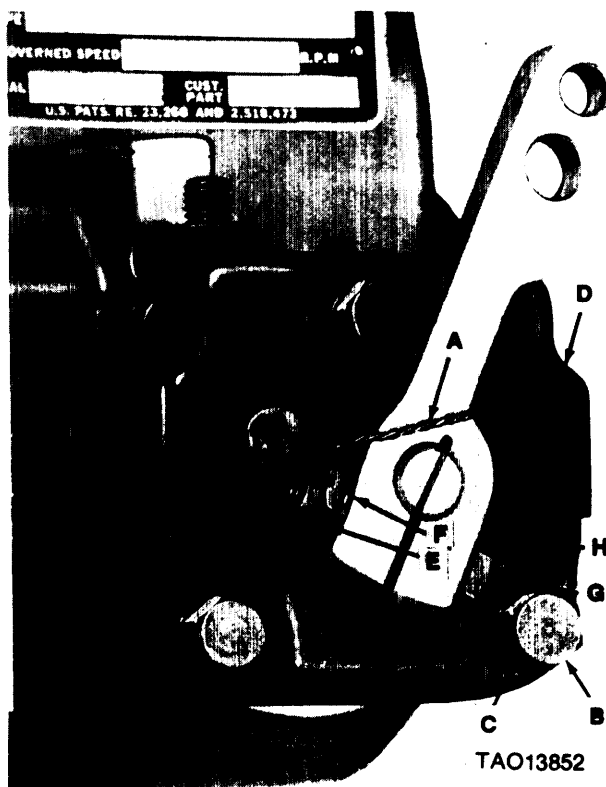

Figure 3-58. Removing dust cover and operating lever—two-piece.
(5) Refer to figure 3-58 or 3-59. Remove the lead seal (A). Remove machine bolts (B), lockwashers (C) and dust cover (D). Remove nut (E), lockwasher (F), and clamping screw (G). Remove operating lever (H).